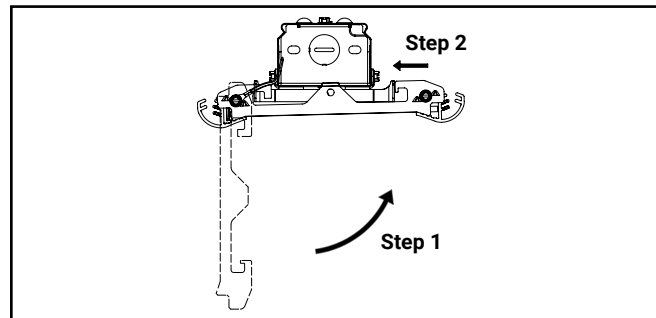

Figure 3.3
- D. Rotate waveguide assembly toward the other end of the channel hinge bracket then move waveguide horizontal and upward simultaneously toward channel. (Figure 3.3)